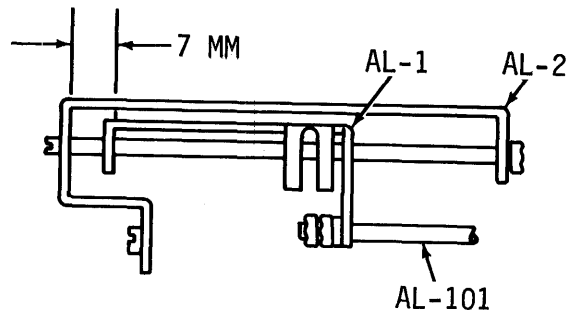

Figure 5-14. LOCATING DIMENSION FOR RIBBON FEED RACK
- 1) Move ribbon feed bar (AL-101) by hand so that rack (AL-1) can be adjusted in next step (2).
- 2) Maintain 7 mm (0.27-inch) between ribbon feed rack (AL-1) and guide rack (AL-2). (See Figure 5-14).